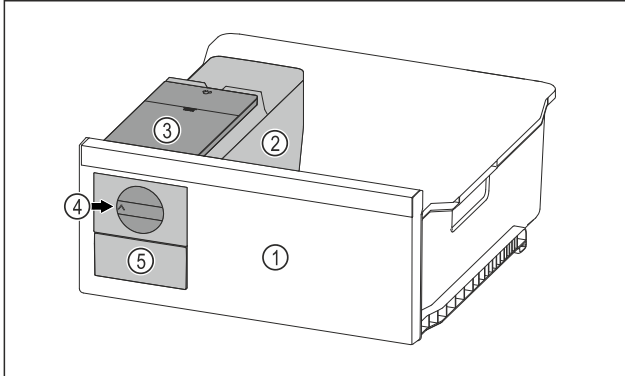

Fig. 108 Example illustration
- Turn the rotary knob Fig. 108 (4) clockwise as far as it will go.
- Ice cubes fall from the ice cube tray into the ice cube drawer Fig. 108 (5).